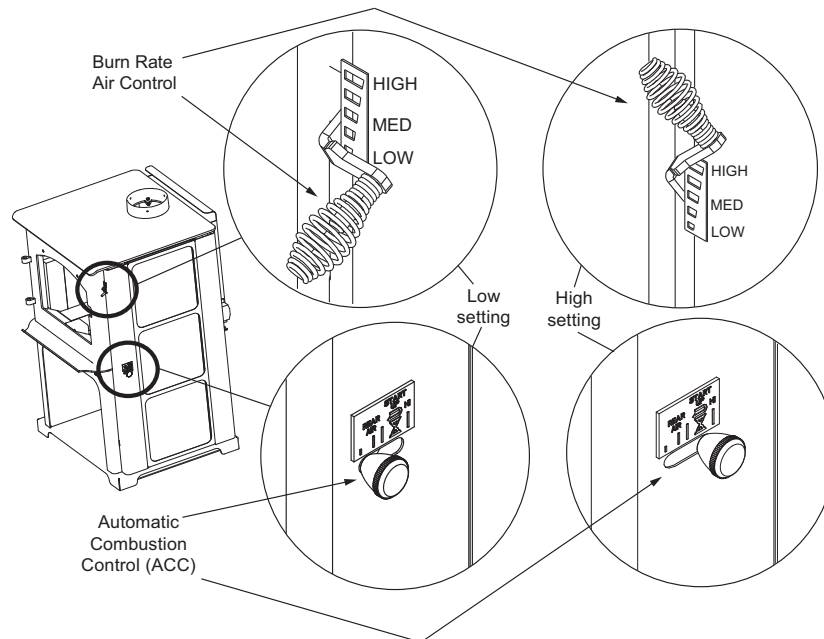

Figure 12.1
Open both Burn Rate Air Control and ACC systems fully. To do this with the Burn Rate Air Controls push spring handle up to high. For the ACC timer system push knob towards back of appliance until the knob is located under the high position (**Figure 12.1**).
To maximize heat output with the ACC timer System or also known as high burn push the ACC Air Control lever towards the back of the appliance and leave. This combined with having the main burn rate control lever pushed up will deliver the most amount of air needed to achieve the highest amount of heat output (**Figure 12.1**).
- Then activate the ACC timer system by pushing the knob all the back toward the appliance to “HI” then pull forwards towards the front of the appliance until the knob stops (**Figure 12.1 on page 12**).